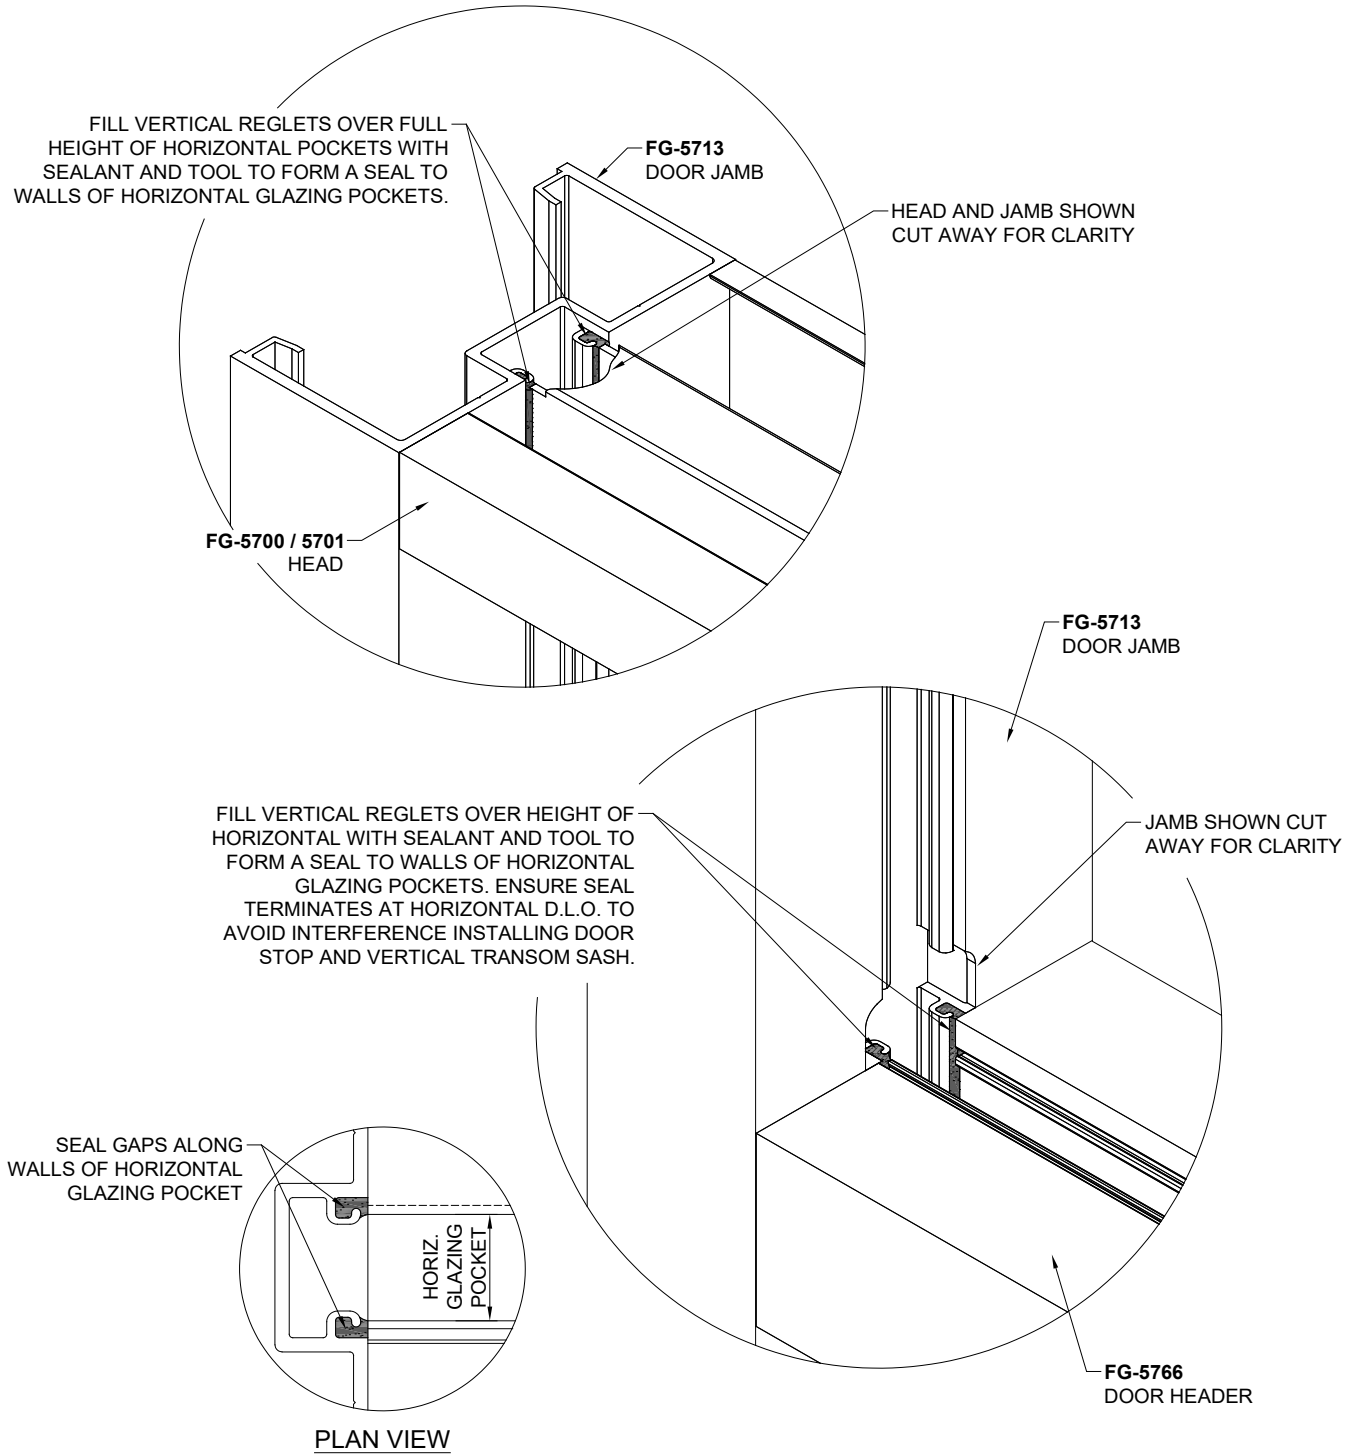

Figure 14: Special Seal at FG-5700, FG-5701, and FG-5766 Joinery with Door Jamb
- 3.4 When **FG-5713** Door Jamb is used with **FG-5700**, **FG-5701** and/or **FG-5766** Horizontals, the joinery at the door pocket of **FG-5713** to the Horizontal glazing pockets requires a special seal to be performed after frame is assembled but before installation. Reference Figure 14 to add a seal along vertical reglets of **FG-5713** at joinery. Tool so a continuous seal is made to the walls of the horizontal glazing pocket, terminating at horizontal D.L.O.'s.